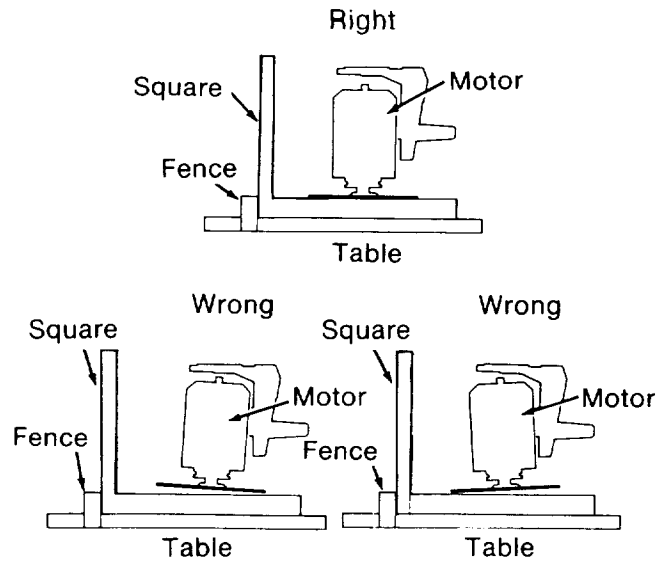

Fig. 121
8. If the square is flush with the *blade* after each rotation (Figure 121) go to step 18, or
If there is a gap between the square and the *blade* after any rotation (Figure 121) go to step 9.